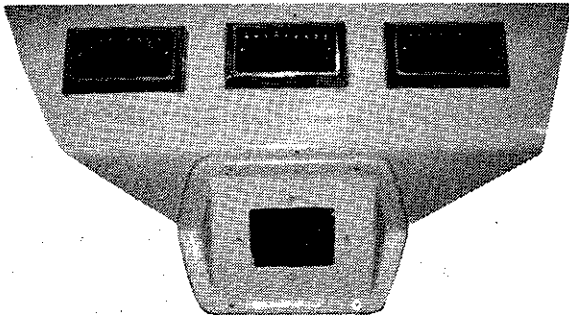

Figure 2-14. CCTV Camera Port
- CCTV camera, located in the rear of the coach, figure 2-14.